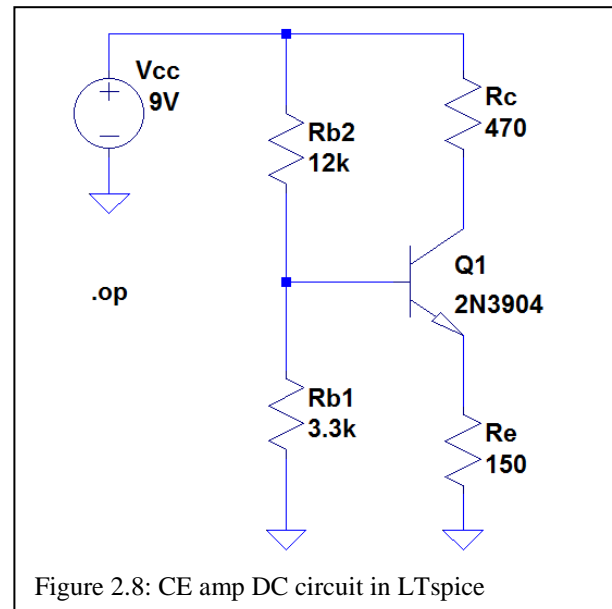

Figure 2.8: CE amp DC circuit in LTspice
In your next lab section meeting you will assemble the circuit shown in Figure 2.8. This activity will serve as a review of how to breadboard a circuit and reintroduce you to your station's equipment (scope, signal generator, and power supply).
1. Consider the circuit shown in Figure 2.8. We will assemble this circuit in LTspice.
1. Breadboard the DC circuit portion (Figure 2.8) of your CE amp.